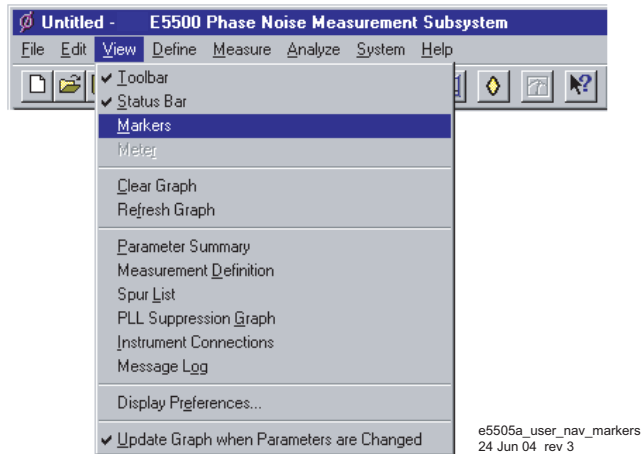
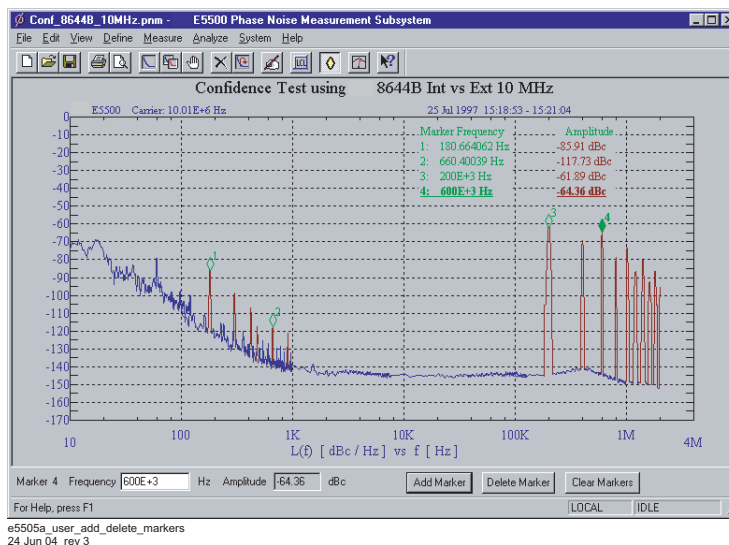

Figure 60 Navigate to markers
Figure 61 Adding and deleting markers
- To access the marker function, on the **View** menu, click **Markers**. See Figure 60. In the dialog box containing Marker buttons, up to nine markers may be added. To remove a highlighted marker, click the **Delete** button. See Figure 61